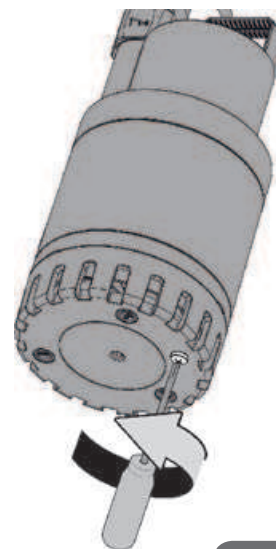

Figure 9
- On the models where it is present, unscrew the fixing screw on the filter (Fig.9).